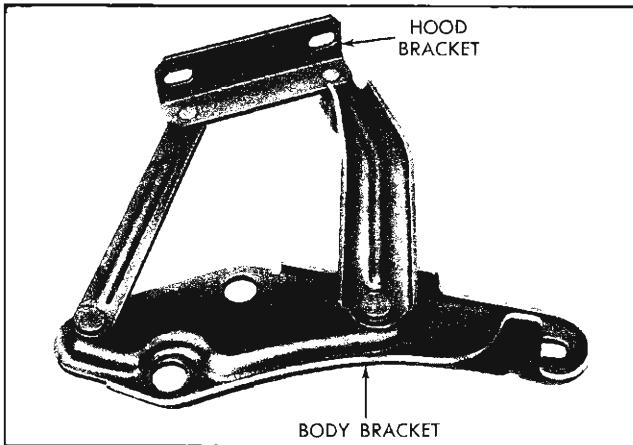

Fig. 10-3 Hood Hinge
1. Slotted holes in the hinge bracket to hood are provided to align hood fore and aft (Fig. 10-3).
The hood is mounted on hinges (Fig. 10-3) mounted to wheel house. Double assist over center springs are used, (one at each hood hinge) both ends of which are fastened to the arms of the hinge. This construction provides hold-open power.